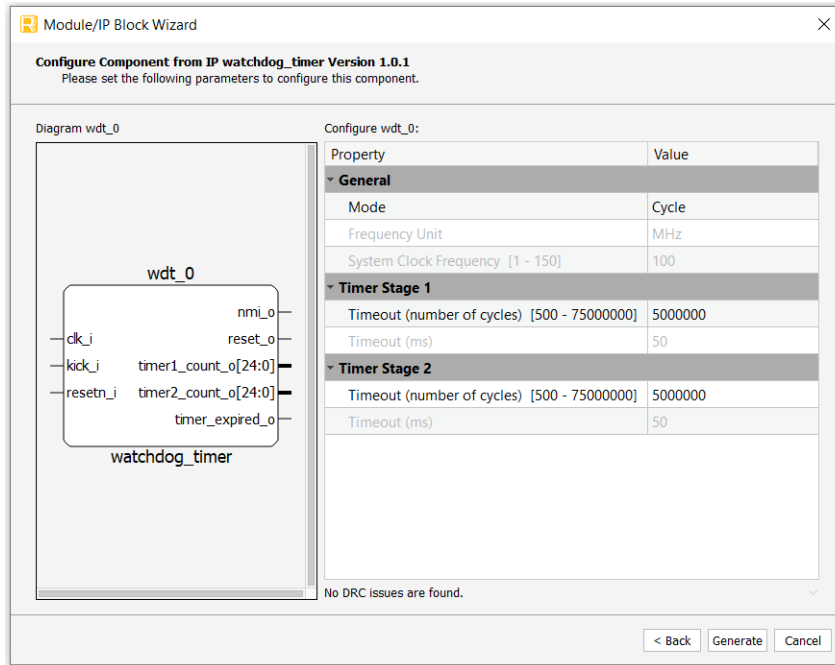

Figure 3.2. Configure User Interface of Watchdog Timer IP Core
3. In the module’s dialog box of the **Module/IP Block Wizard** window, customize the selected Watchdog Timer IP Core using drop-down menus and check boxes. As a sample configuration, see Figure 3.2 For configuration options, see the Attribute Summary section.
IP Generation and Evaluation	Updated Figure 3.2 .